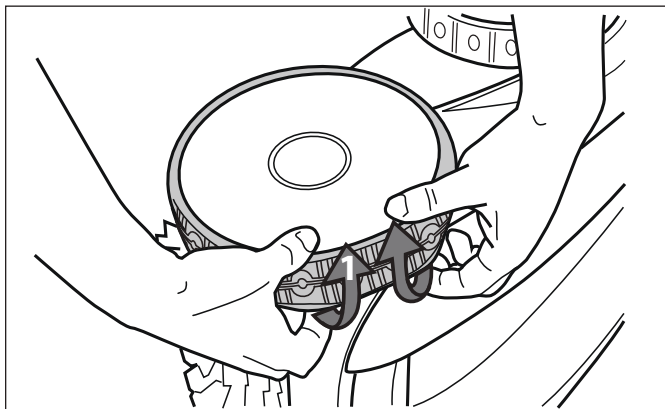

Figure 35. Pull the Old Tire Over the Wheel
1. Pull on the inside of the old tire to remove the tire lip from the wheel. See Figure 35.